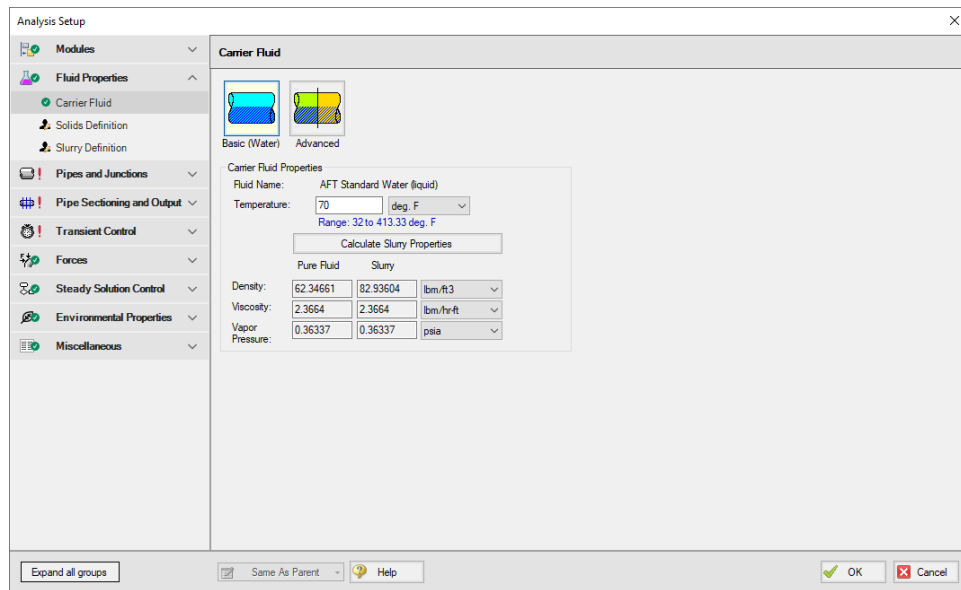

Figure 1: Carrier Fluid panel
1. Carrier Fluid panel (Figure 1)